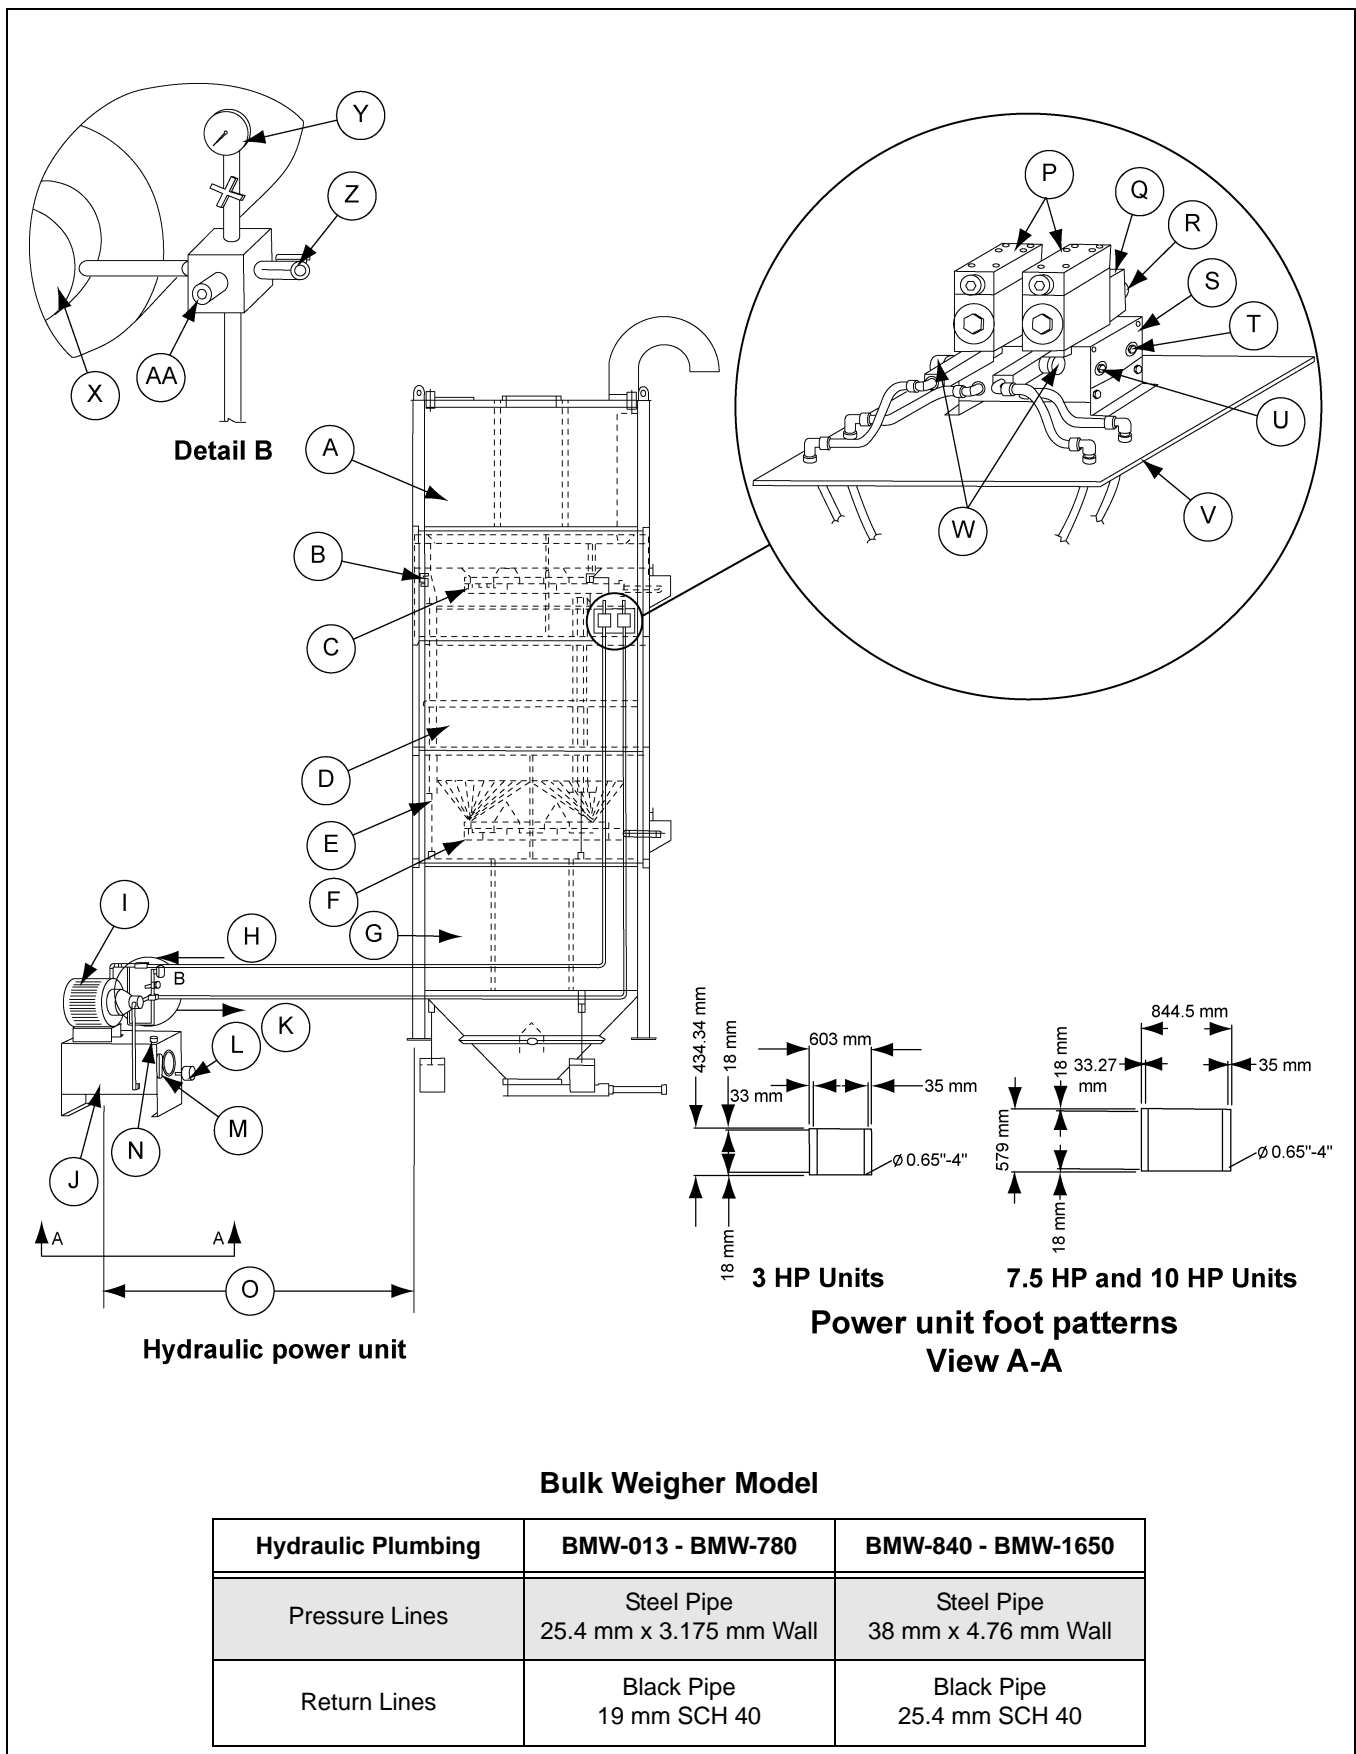

Figure 2B Hydraulic System Arrangement
5. Run the hydraulic plumbing from the power unit to the gate valves according to hydraulic schematic. (*See Figure 2B on Page 19.*)